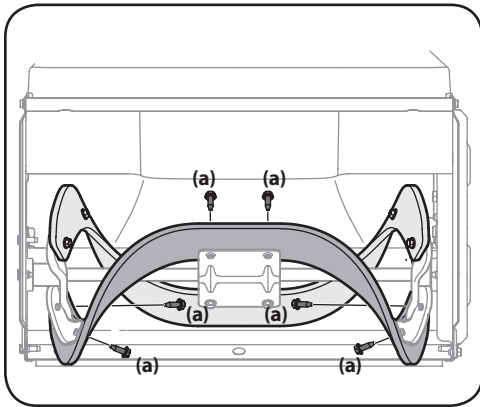

Figure 4-7
3. Remove the existing rubber paddles by unthreading the hex washer screws (a) which secure them to the auger. See Figure 4-7.